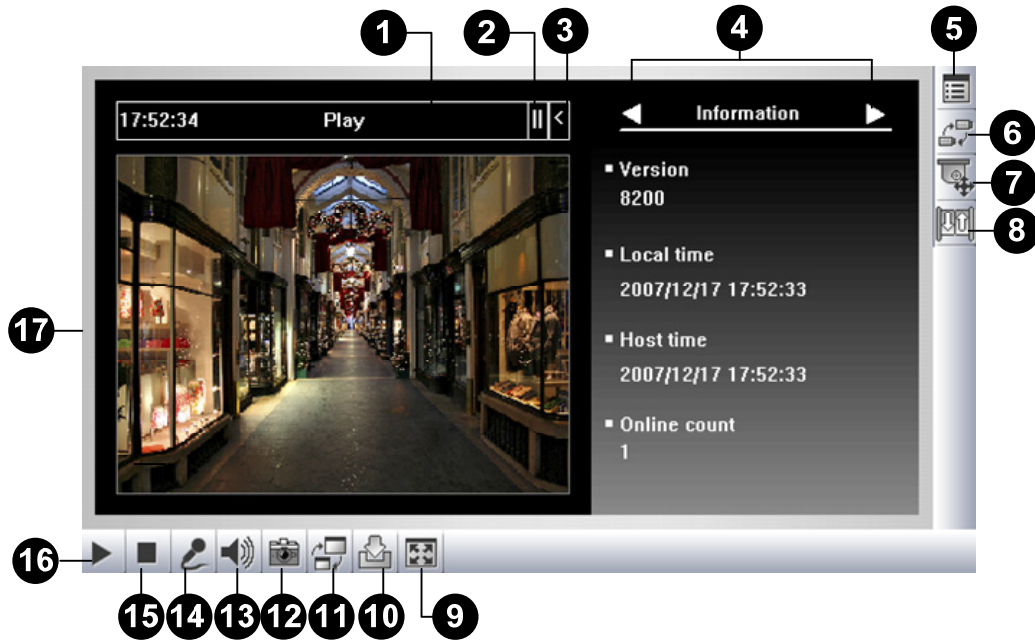

Figure 8-19 Single View MPEG4 Encoder Viewer
A control panel is provided for control of the connected channel. To open the control panel, click the **Expand / Close** button (No. 3, Figure 8-19) on top of the Single View viewer. To change the pages of the control panel, click the **Menu** button (No. 2, Figure 8-19). You can also use the right and left arrow buttons on the panel to change the pages.
You can add the connection information of multiple GV-Systems to the WebCam server for quick access later. Click the **Show System Menu** button (No. 5, Figure 8-19), and select **Change Server** to display the following dialog box.
Click the **File Save** button (No. 10, Figure 8-19) to save video in a local computer. Files saved in AVI format are playable at third party viewers. Use the slider to adjust the time length of each saved clip.
1. Click the **Show System Menu** button (No. 5, Figure 8-19), and select **Alarm Notify**. This dialog box appears.
To change the video and audio configurations of the connected camera, click the **Show System Menu** button (No. 5, Figure 8-19), and select **Video and Audio Configuration**.
2. On the Single View, click the **Change Quality** button (No. 11, Figure 8-19). You will have the option of megapixel resolution now.
Click the **Camera Select** button to select one PTZ camera, and then click the **PTZ Control** button (No. 7, Figure 8-19) to bring up the PTZ control panel.
To access this feature, click the **PTZ Control** button (No.7, Figure 8-19) and select **Visual PTZ**. For details on using the Visual PTZ Control Panel, see *PTZ Automation* in Chapter 1.
The new interface provides real-time graphic displays of camera and I/O status, and alarm event. Additionally, you can force output, as well as enable and disable I/O devices to the remote GV-System. Click the **I/O Control** button (No. 8, Figure 8-19) to bring out the I/O control panel.
- To access this feature, click the **I/O Control** button (No. 8, Figure 8-19), and select **Visual Automation**.